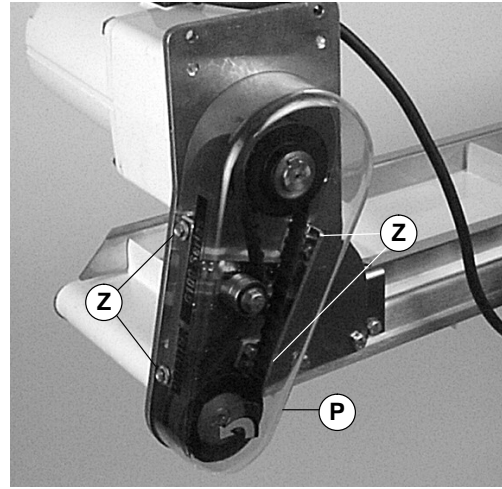

Figure 8
NOTE: Do not over-tighten screws (Z of Figure 8).
8. Install cover (P of Figure 8) and tighten four (4) screws (Z) to 4 Nm.